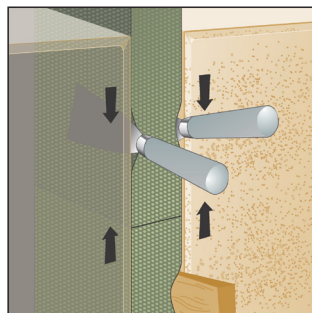
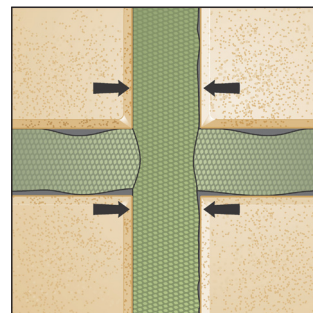

Fig. 2
Fig. 3
- At the end of a roll, cut off the tape wedge finish. Repeat the process with a new roll, making a close compressed butt connection as shown in Fig. 2. At cross of crucifix joint, install as per Fig. 3.